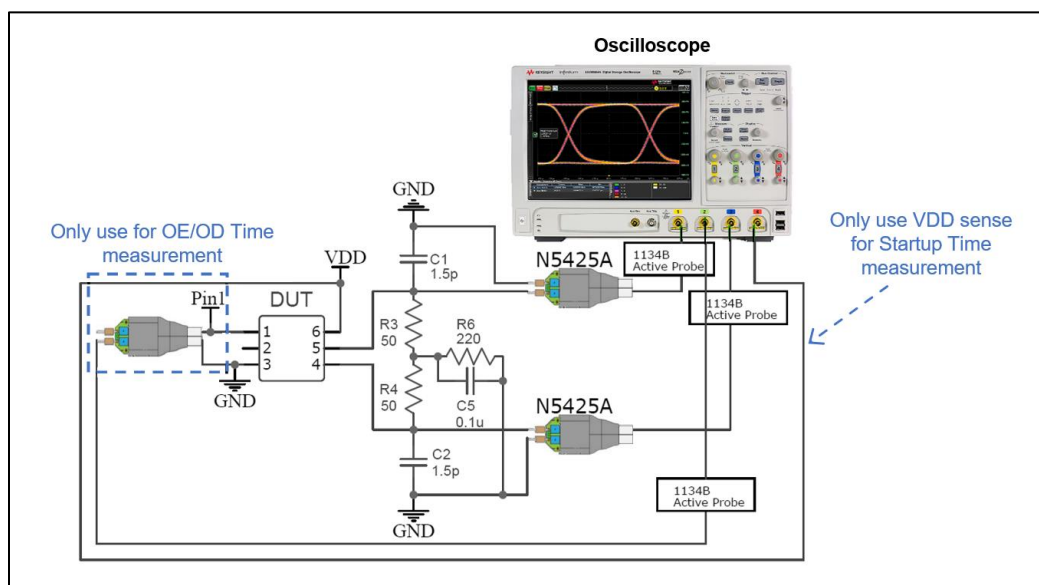

Figure 12. Test setup to measure FlexSwing Waveform Characteristics, Current Consumption^[18], Output Enable/Disable Time, and Startup Time
15. See Figure 12 for the test setup to measure LVPECL Current Consumption with Termination 1 or without Termination.